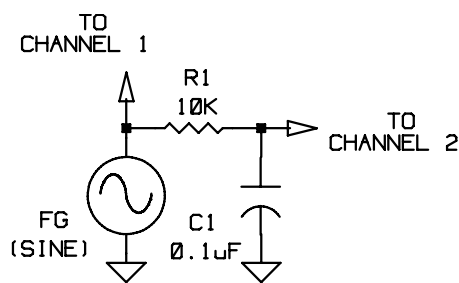

Fig. 2. Test circuit (a low-pass filter).
Next, set up the circuit shown in Fig. 2 below. Note that the ground symbol in the schematic implies a point of common reference. The ground clips on both scope probes and the shield connection on the FG output cable are connected here.
4. Import this screen image into the word processor as report Fig. 2.
The report should review the definitions of the following terms: average, dc, offset, peak-to-peak, and rms. Using the waveform plotted in the experimental image of the triangle wave, directly calculate these quantities and verify that the DSO measurement facility has produced a plausible result. Determine what the DMM has measured in its "dc" and "ac" measurements. Why doesn't its ac measurement agree with the scope's rms readout? Given the input to Fig. 2 of a 2 Vp-p sine wave, calculate the theoretical voltage that should appear on channel 2, and compare it with the measured result. What is the name given to the experimental image shown in report Fig. 3?